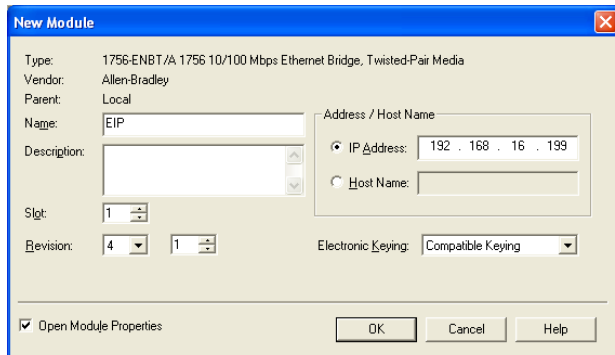

Figure 80: Identifying the New Module
- 6) The “New Module” window will open. Refer to Figure 80.